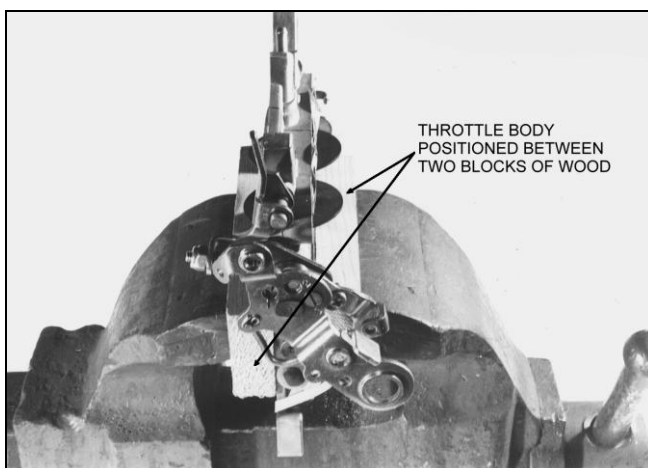

FIGURE 5
4. Take the throttle body and place it between two blocks of wood in a vise. See Figure 5.